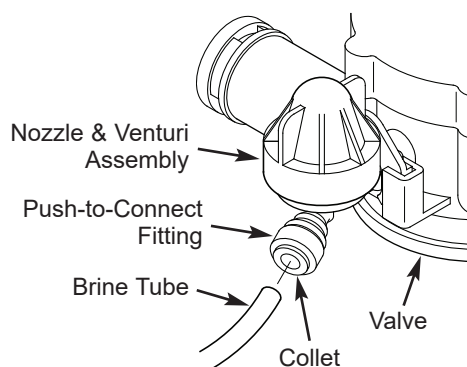
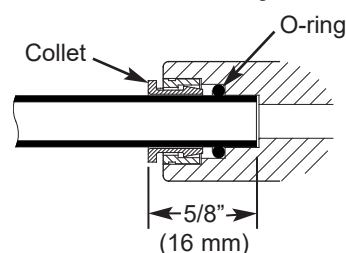

FIG. 11
FIG. 13
- Connect brine tube by inserting end into push-to-connect fitting on the valve's nozzle & venturi assembly (See Fig. 11). Push it until at least 5/8" (16 mm) of tube is inserted (See Fig. 13).